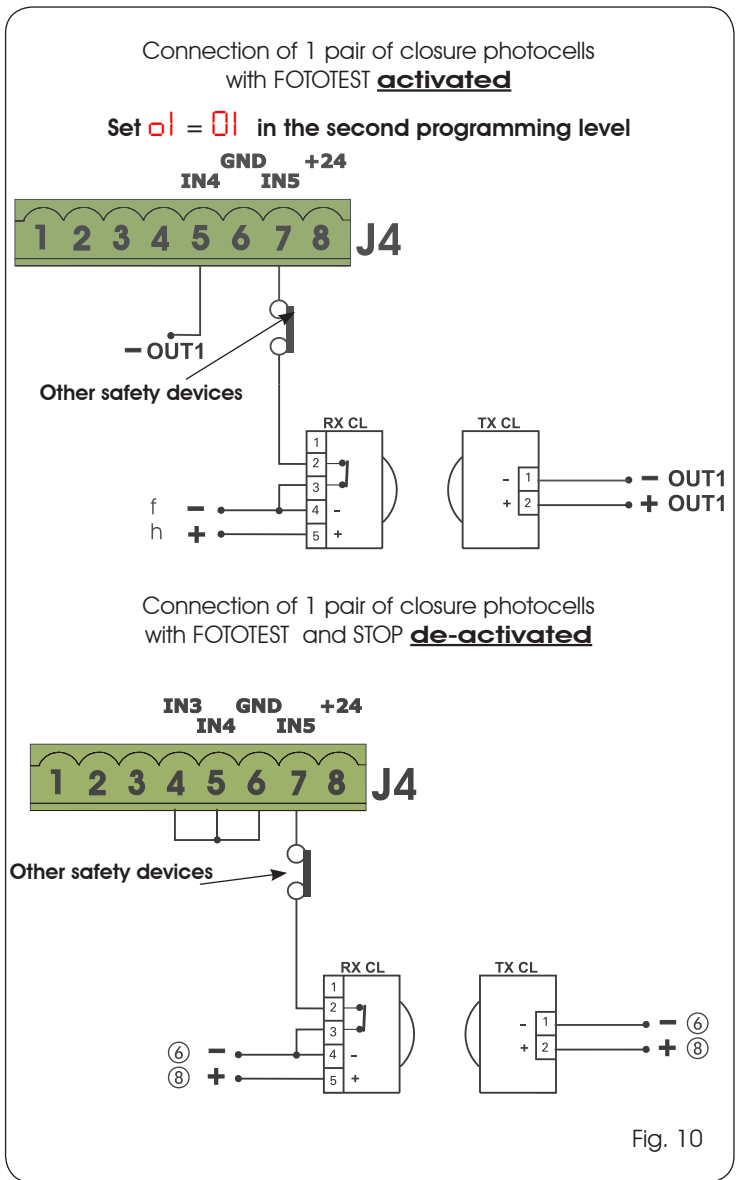

Fig. 10
- If you use the FOTOTEST device, connect the transmitters power feed to OUT1 after you have set it appropriately (see 2nd level programming and fig. 10).*
- If you use the FOTOTEST device, the non-used safety inputs too must be jumper connected to the OUT1 negative (see Fig.10).*